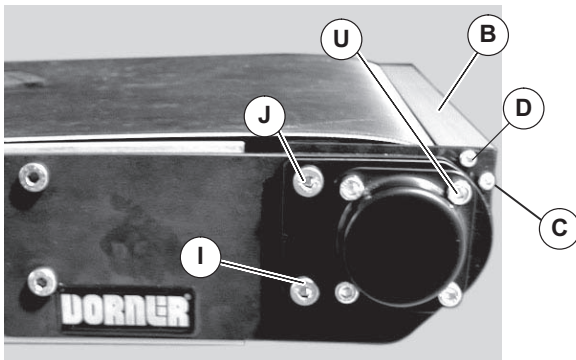

Figure 27
- Place transfer plate support (Figure 27, item B) on end of conveyor and attach with screws (C) and (D) on each side of conveyor. Tighten screws (C and D) to 50 in-lbs (5.6 N-m).
- Tighten screws (Figure 27, item I and J) to 146 in-lbs (16.5 N-m) and tighten screw (U) on side of conveyor opposite the drive.